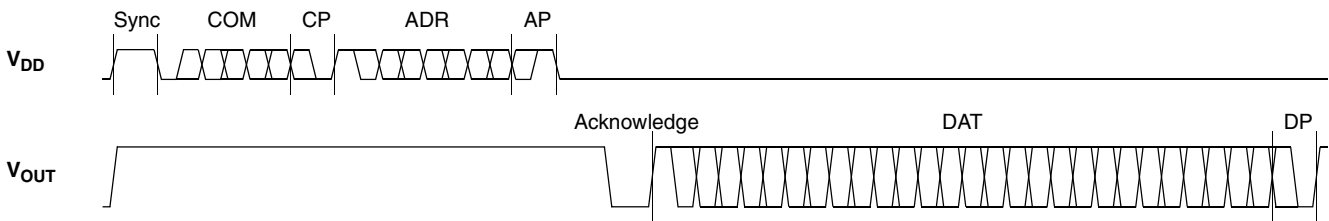

Fig. 5-3: Telegram for coding a Read command
- Read a register (see Fig. 5-3 on page 35)